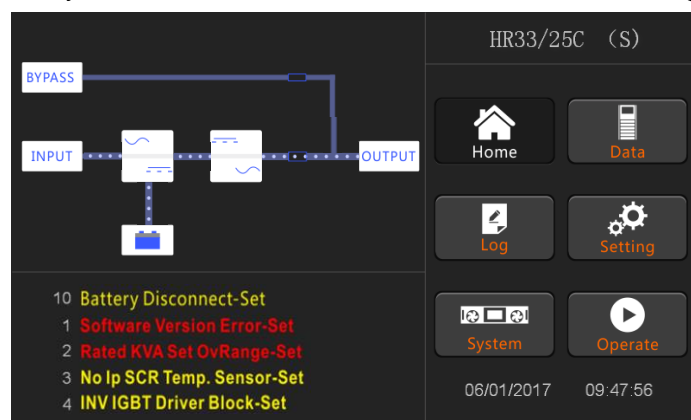

Fig.5-5 Interface of normal mode
8. Close the external battery switch, the battery indicator flashes, and then the UPS charges the battery. The UPS works in normal mode. As shown in Figure 5-5